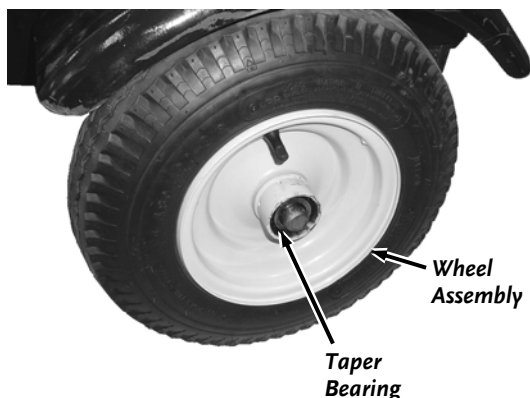

Figure 60
11. Slide a Wheel Assembly onto the Axle Shaft. Make sure the open side of the Wheel Hub with the loose Taper Bearing is facing towards you (**Figure 60**).